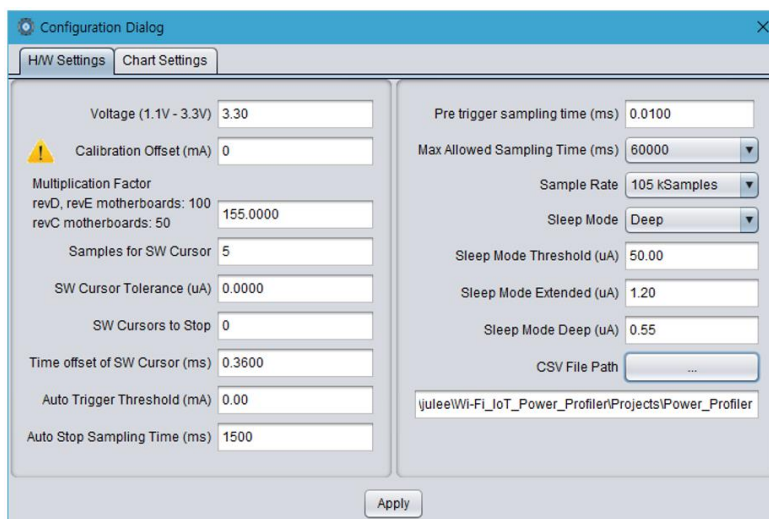

Figure 61: Setting Offset to Zero
2. In the main window of the Power Profiler, click **Config** and temporarily set the **Calibration Offset (mA)** field to zero as shown in Figure 61.